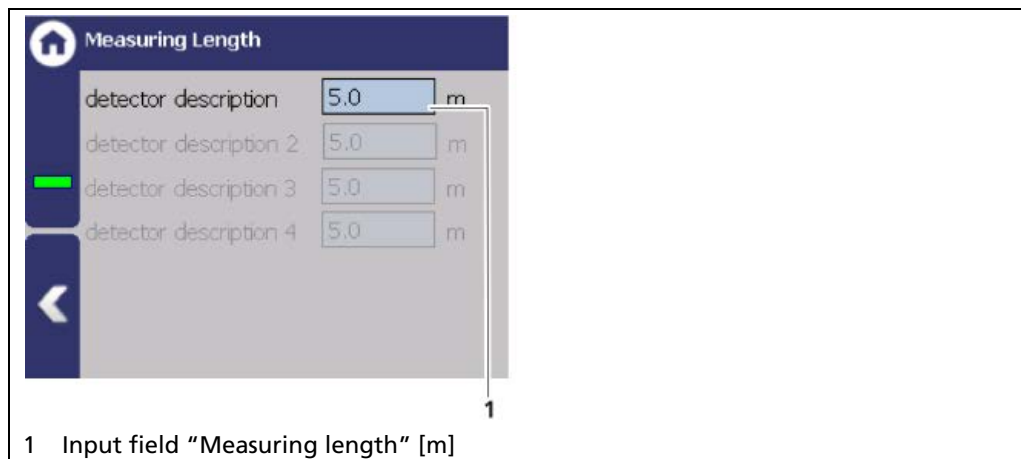

Fig. 65 Measuring length
In this menu the length of the scintillator of the individual detector (when using a rod detector) or the measuring length assigned to the individual detector (when using a rod source / point detector arrangement) is entered (Fig. 65, item 1). For the correct entry, note the dimensions in the Technical Information of the respective detector or source. In case of a TowerSENS detector, the total scintillator length including the lengths of the installed extension modules needs to be entered.
In this menu the measuring length of each level detector, which was added to the system (see 7.3.2), needs to be set. For this purpose, a dedicated field is displayed for each registered level detector (indicated in Fig. 65).
If more than one level detector is configured, they are listed one below the other with the respective input fields as in Fig. 65 shown transparently.